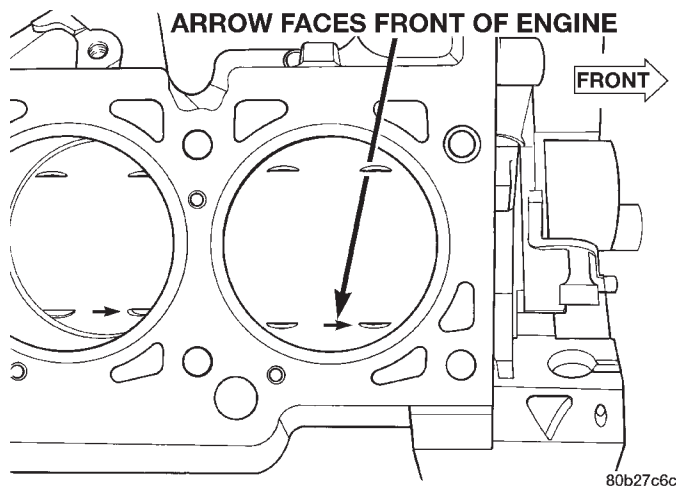

Fig. 100 Piston Orientation
(7) The arrow on top of piston must be pointing toward front of engine (Fig. 100) and oil squirt hole on connecting rod faces the major thrust (right) side of the cylinder bore (Fig. 101).